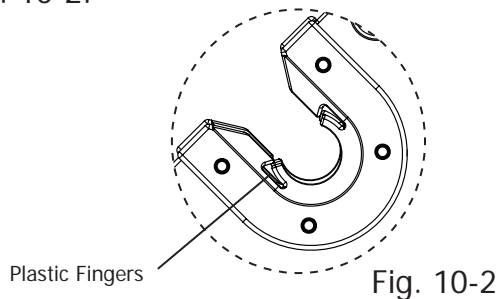

Fig. 10-2
**Note:** The poles will snap past the plastic fingers, which are shown in Fig. 10-2.